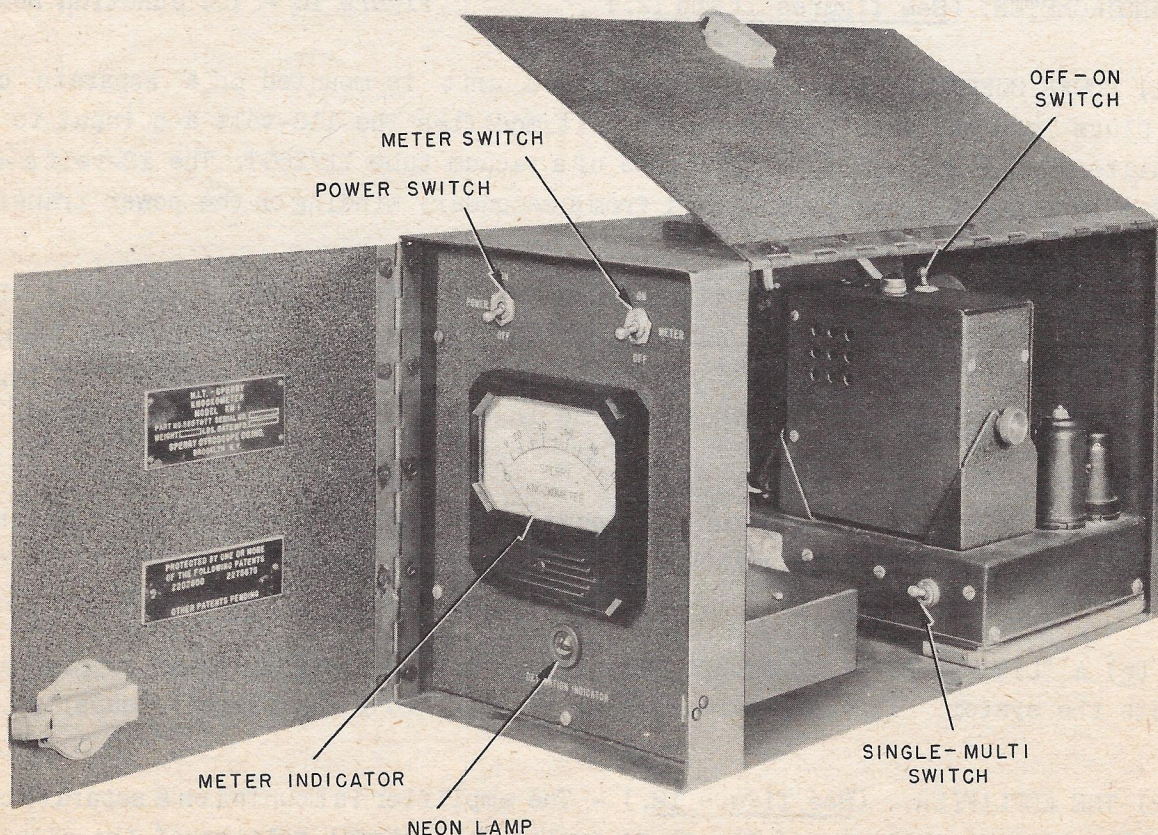

Figure 11 - The Knockometer (Face View)
d. KNOCKOMETER. (See figures 11 and 12.)
(b) The POWER switch (figure 11), located on the face panel of the cabinet above the meter indicator, controls all current to the Knockometer.
(c) Mounted on the amplifier chassis is the two-position SINGLE-MULTI switch. (See figure 11.) This switch changes the amplifier output level in accordance with the type of engine being used, either single or multi-cylinder.
(3) METER INDICATOR. (See figure 11.) - The output of the amplifier is fed to the meter indicator which contains a 1/4-watt neon lamp, an integrating network, and a vacuum tube voltmeter. The automatic gain control action of the amplifier maintains normal combustion level voltage below the flash voltage of the neon lamp. Consequently, the lamp flashes only on detonation voltages and only these are recorded on the meter indicator. The lamp is visible on the panel and serves a further useful purpose of offsetting the inherent lag in the meter reading by giving an instantaneous indication of knock.
(a) The METER switch (figure 11), located above the meter indicator on the face panel of the cabinet, turns the meter circuit on and off.